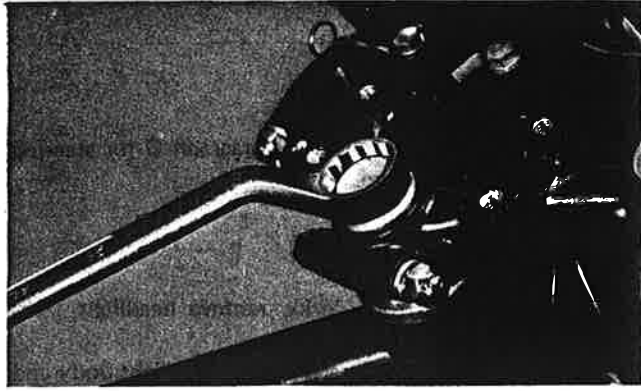

Fig. 5-7-4
8. Remove stem fitting **bolt and crown washer.** (Fig. 5-7-4)